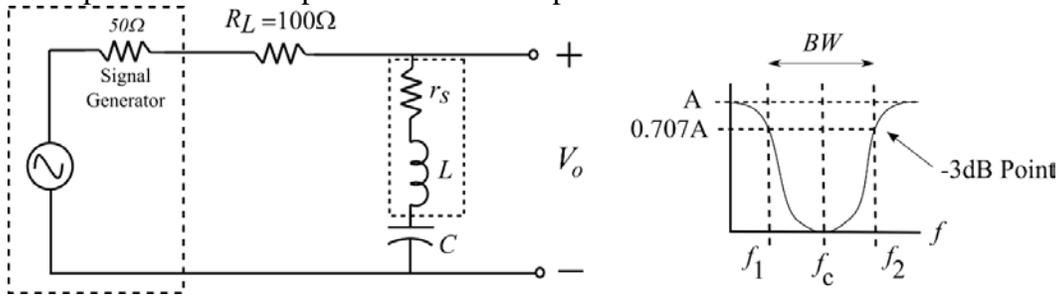

Figure 3: Band-reject filter.
The series-resonant circuit shown in the left hand side of Figure 3 is configured to perform a band-reject function. That is, at resonance, the reactance of  $C$  will cancel the reactance of  $L$ , leaving only a resistive circuit. This will provide maximum coupling at the resonant frequency,  $f_c$ . A band-reject filter will have a frequency response similar to that shown at the right hand side of Figure 3. From the frequency response it can be seen that the band width,  $BW$ , is determined by the  $-3dB$  points, or the frequencies where the amplitude of the output is down by 3dB from the
1. Reconfigure the circuit to make a band-reject filter of Figure 3. Set the signal frequency to approximately 20 kHz, and set the oscilloscope volt/division so that the circuit's output waveform fills the oscilloscope display area. Slowly increase the frequency to determine the center (resonant) frequency. The resonant frequency will be the frequency at which the smallest signal level will be observed on the oscilloscope display. Vary the frequency above and below the resonant frequency.